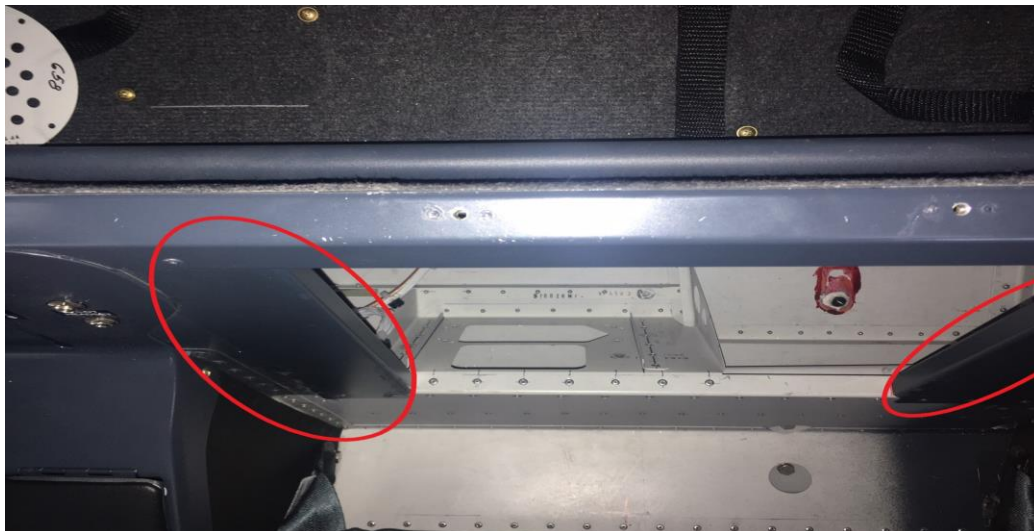

Fig. 4: Inner and outer cover plate (item 005, 006, 007, 008)
- 8) Rivet the inner (006) and outer (008) cover plate (see Fig. 4).